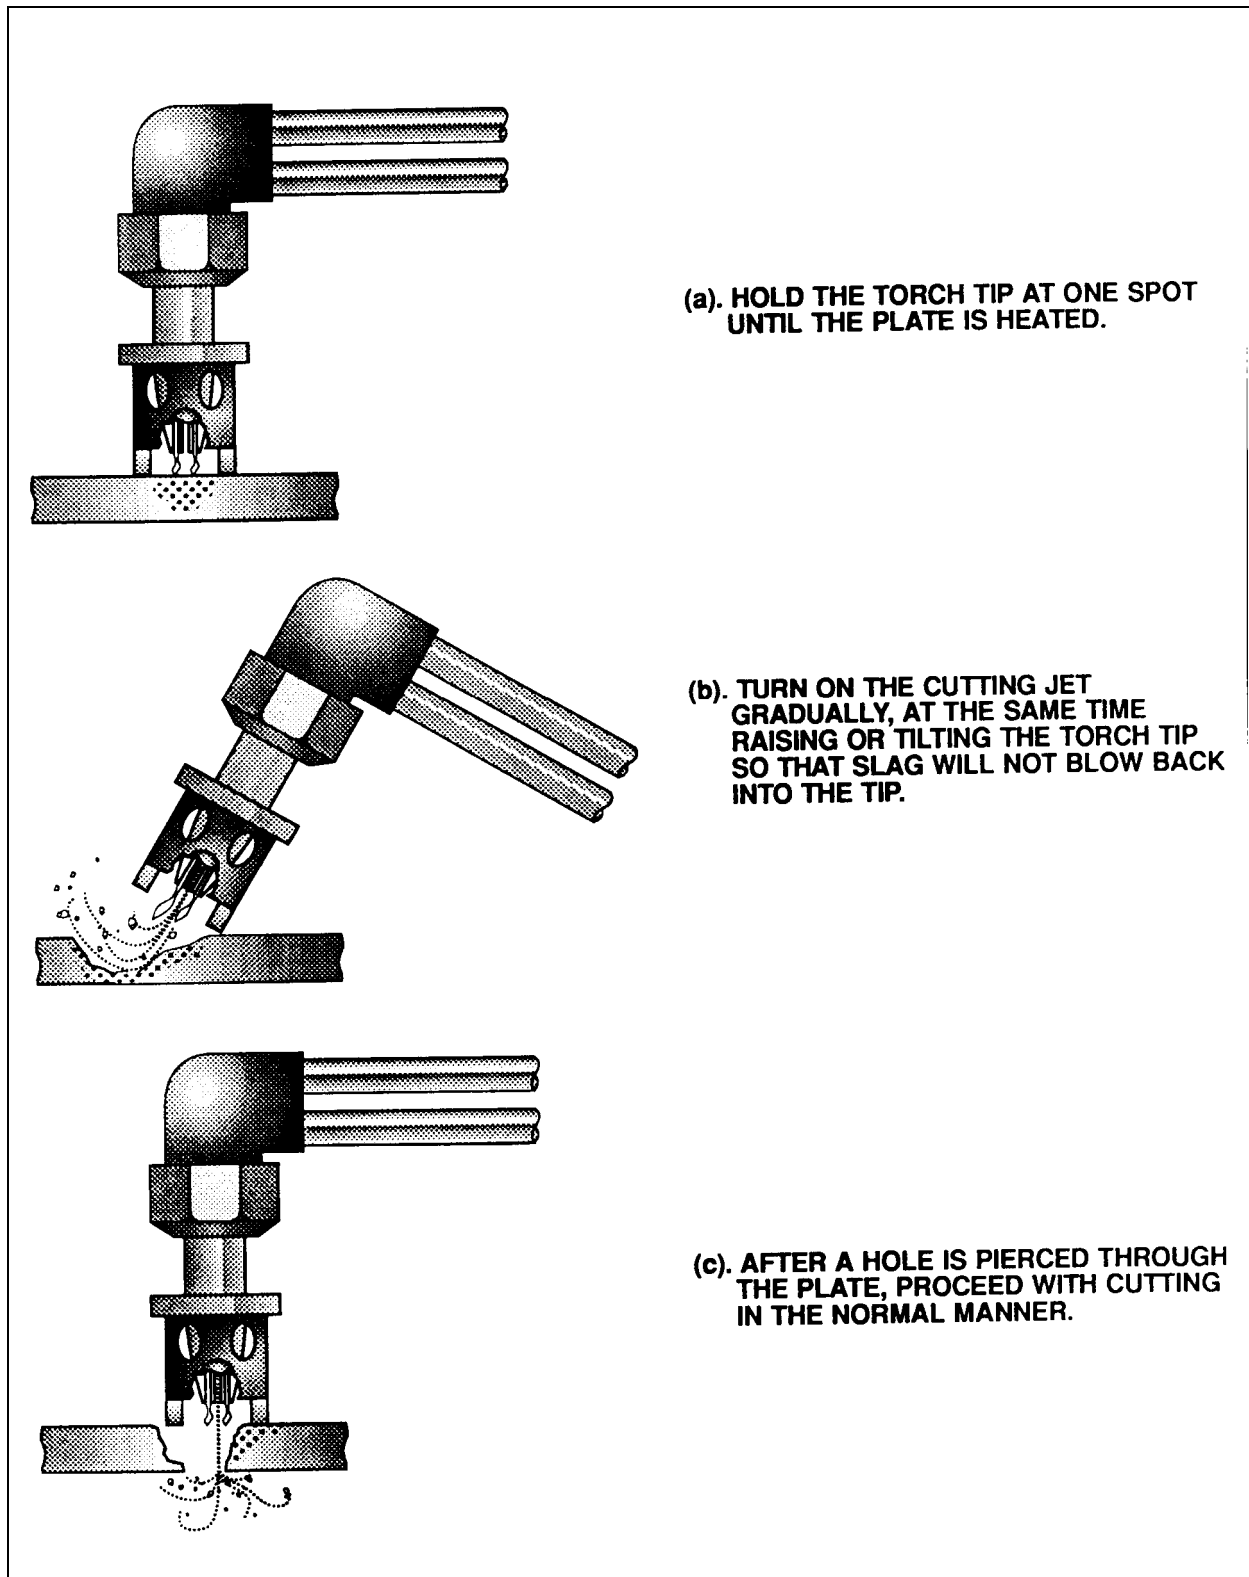

Figure E-6. Starting a Cut in the Central Portion of a Plate.
- a. Hold the torch tip at one spot on the plate until it is brought to heat. Figure E-6 shows the torch positioned for starting a cut in the middle of a flat, horizontal plate.